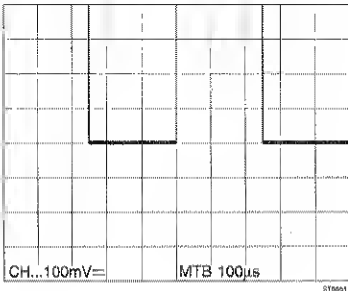
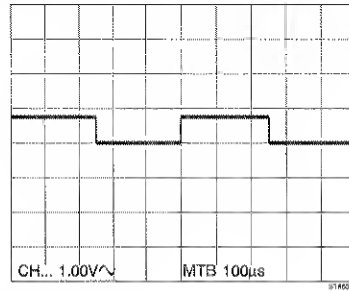

Figure 3.5
Figure 3.6
- Verify that this results in an upward signal shift. Fig. 3.5 shows this for channels with 100mV input sensitivity: the shift is 3 divisions. Fig. 3.6 shows this for channels with 1.00 V input sensitivity: the shift is 0.3 divisions..